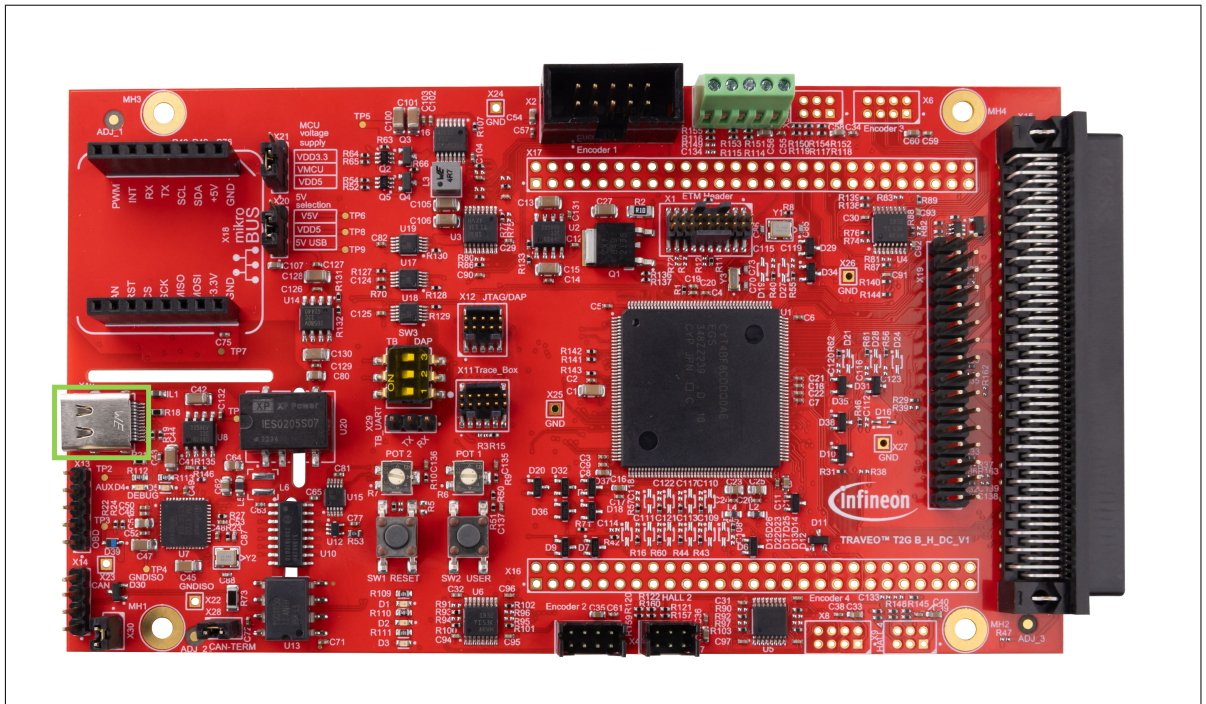

Figure 9 Connect USB cable to the USB connector on board
1. Connect the board to the PC using the provided USB cable through the J-Link USB connector (X10), as shown in Figure 9. It will enumerate as a USB composite device if the board is being connected to the PC for the first time. Ensure to install the latest J-Link drivers from the Segger website.